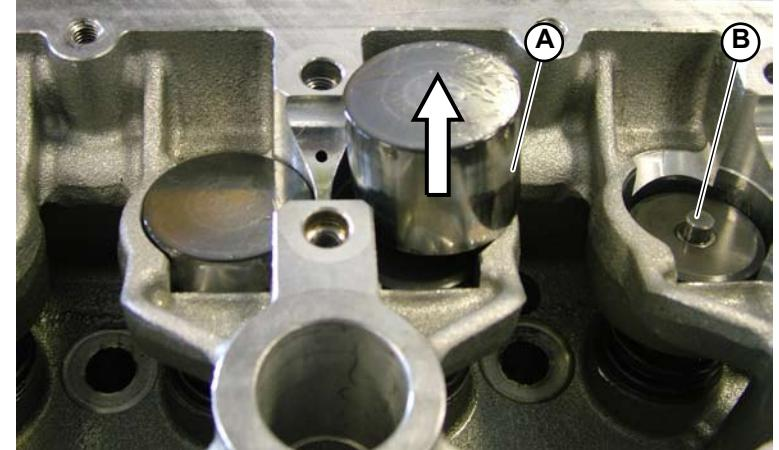

Fig.2
- Remove the tappets (A-Fig.2) from their housings.
- Remove the spacers (B-Fig.2) positioned underneath the tappets.
4. Using the special tool (A-Fig.2), press the spacer ring to insert the 2 cotters (B-Fig.2).